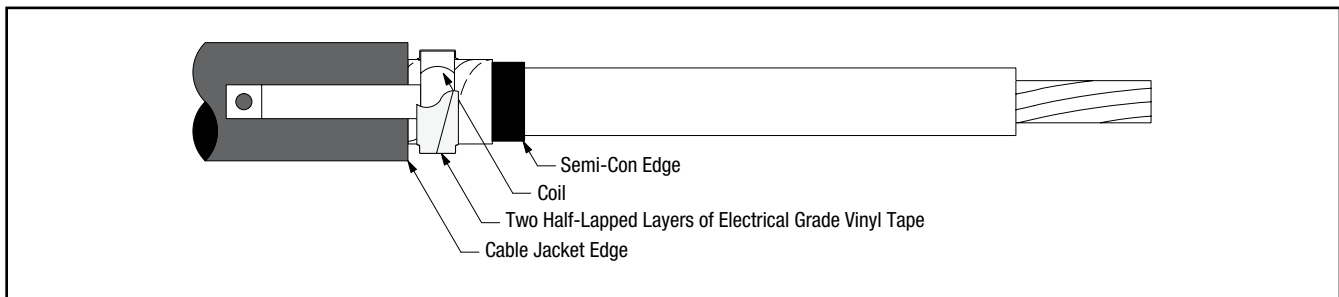

Figure 3
3.3 Hold coil in place with thumb. Pull coil around the cable allowing it to unwrap and rewrap around the shielding and itself (*Figure 3*).
3.4 Wrap two highly stretched half-lapped layers of electrical grade vinyl tape around the coil and exposed tape shield (*Figure 3*).